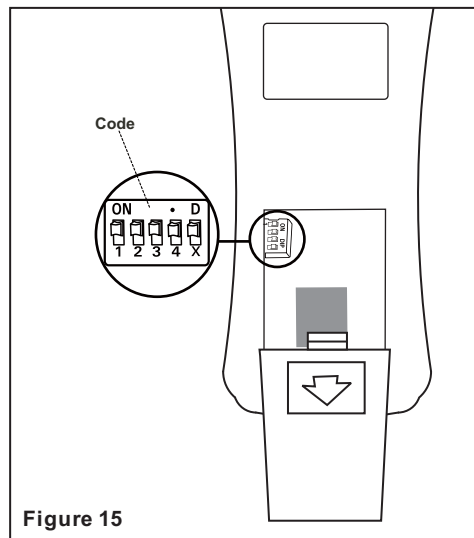

Figure 15
2. Use a ballpoint pen or a small screwdriver to set the code switches 1 through 4 for the transmitter. **Note:** Since this fan comes with an LED module, the dimmer switch (labeled D and X) has been pre-set to the "ON" position (D). If you do not wish to have dimming capability, please move the switch to the "OFF" position (X). (Fig. 15)
3. Restore electrical power and then set slider switch on wall control to the ON position. Within 30 seconds of turning on the wall control, press and hold the "OFF" button on the front of the transmitter for 5 seconds or until light on fan blinks twice. (Fig. 15)